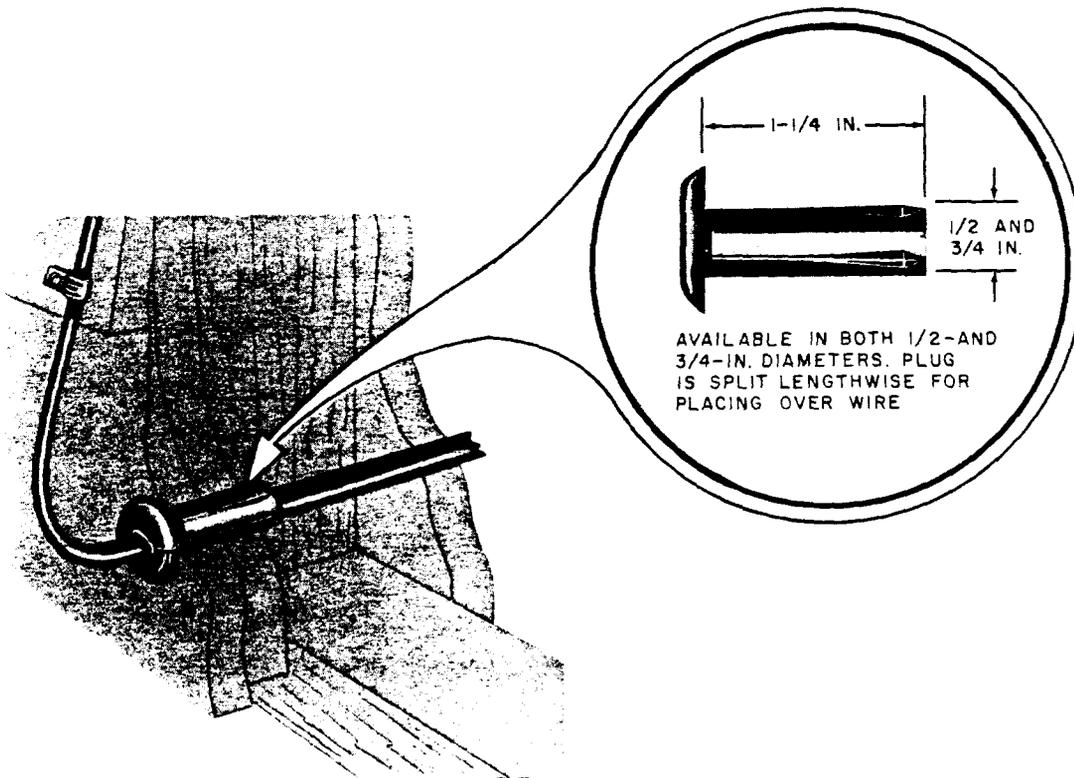

Fig. 19—B Entrance Plug
13.02 The B entrance plug (Fig. 19) is intended primarily for use with C or F drop wires and is furnished in 1/2- and 3/4-inch diameter sizes. This plug may be used: